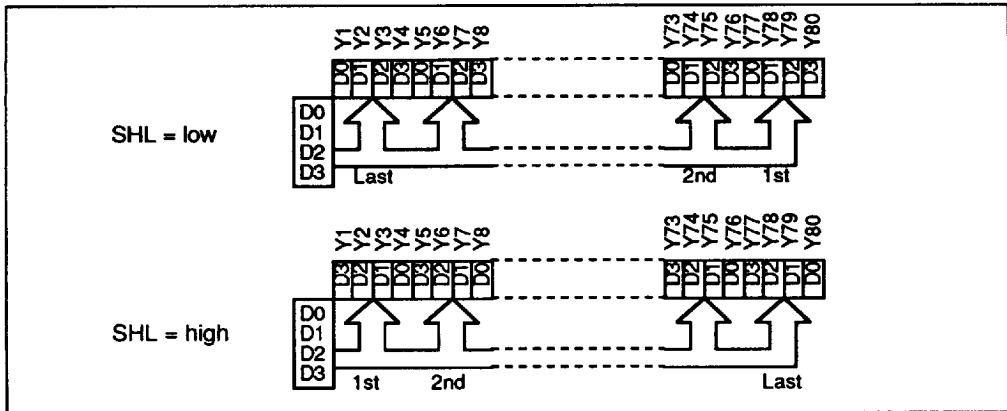

Figure 2 Selection of Destinations of Display Data Output
**SHL:** Shifts the destinations of display data output. See figure 2.